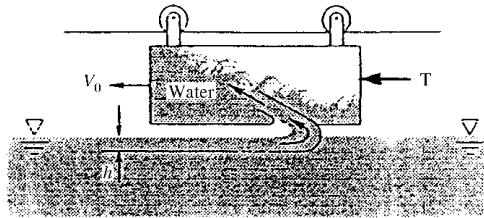

Fig. P3.107
- 3.107** The cart in Fig. P3.107 moves at constant velocity  $V_o = 12 \text{ m/s}$  and takes on water with a scoop 80 cm wide which dips  $h = 2.5 \text{ cm}$  into a pond. Neglect air drag and wheel friction. Estimate the force required to keep the cart moving.